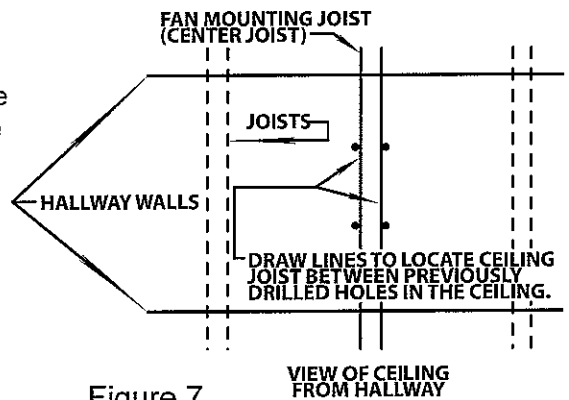

Figure 7
4. From the hallway locate the four nails which locate the joist position. Draw a straight line between the two nails on each side of the joist and extending out beyond the planned hole size (See Fig. 7)